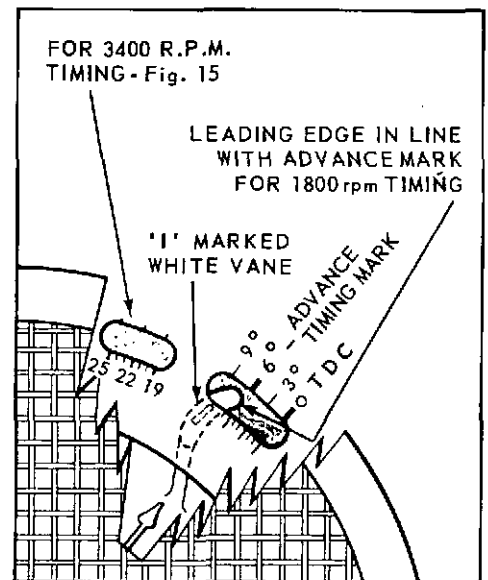

Fig. 16, SPARK ADVANCE FIXED LOW SPEED
2. **For fixed speed engines**, particularly those operating at 1800 r.p.m., refer to Fig. 16 which illustrates 9°, 6°, 3° and T.D.C. timing marks. The **cast arrow** identifies the **"I" marked flywheel vane** that is visible through the opening at the 6° mark.
2a. For fixed **low speed** applications, operate the engine at **1800 r.p.m.** and allow the flash from the timing light to illuminate the **"I" whitened flywheel vane**. At the time of the flash the **leading edge** of the vane should line up with the **6° Timing Mark** on flywheel shroud, as illustrated in Fig. 16.